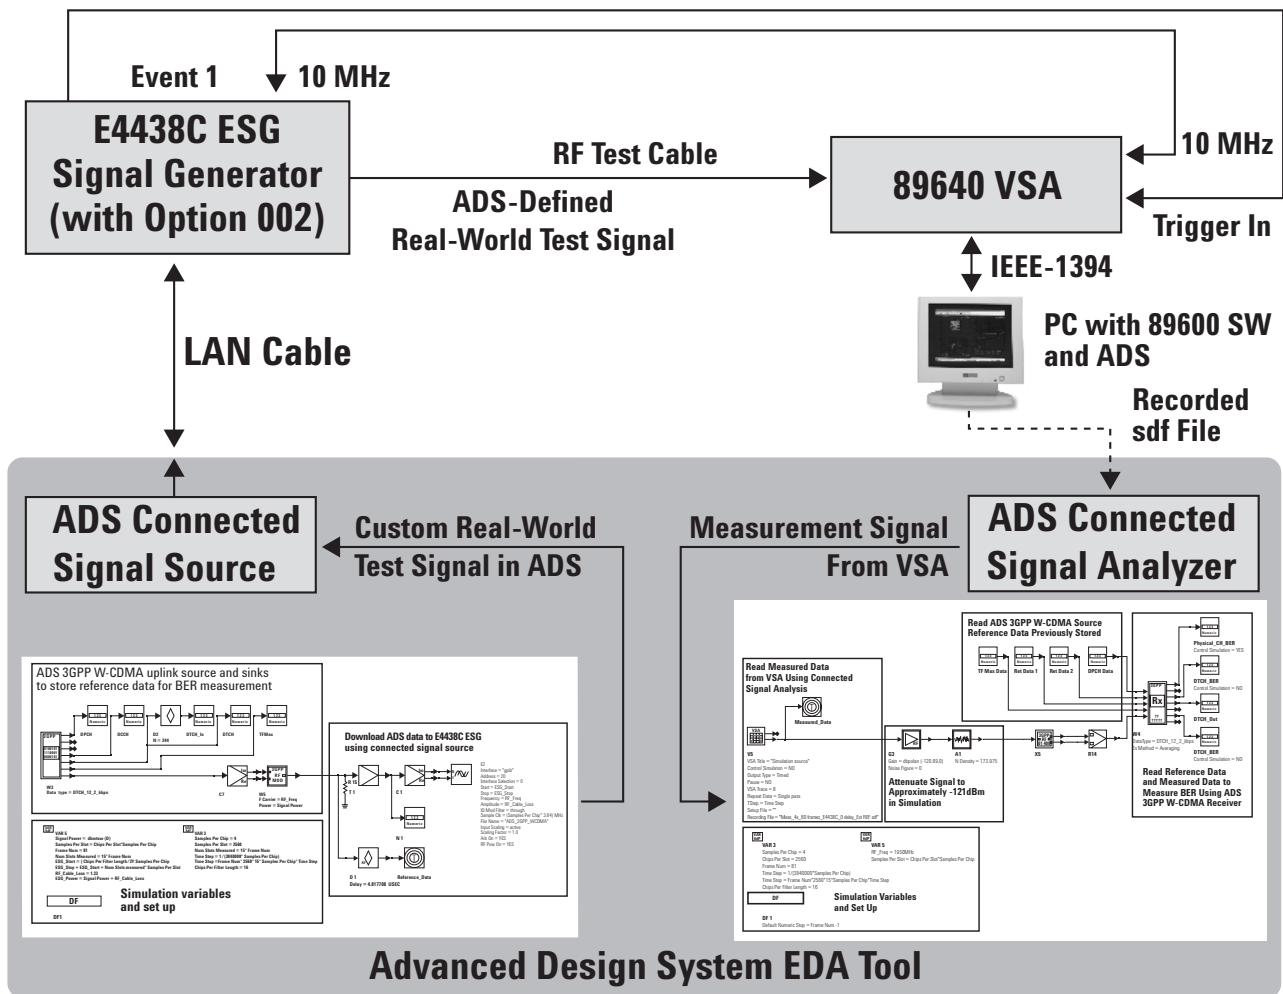

Figure 29. ADS Connected Solutions BER Test Setup.
Step 3. Setting up the Signal Analyzer to Record the Measured Data. The E4438C and 89640A VSA are setup as shown in figure 29.